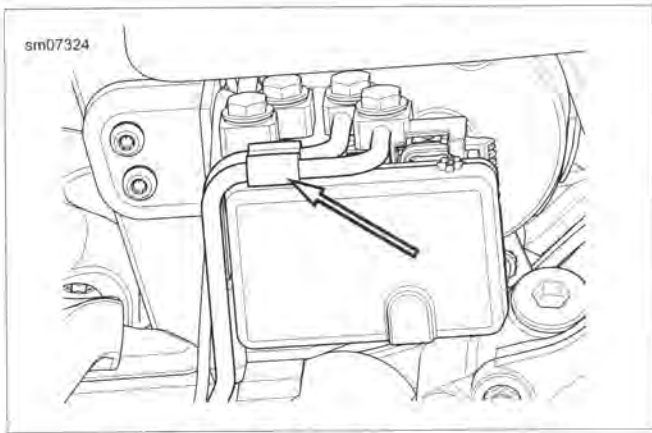

Figure 2-79. Brake Line Clip at ABS Module
8. See Figure 2-79. Remove brake line clip at ABS module.
See Figure 2-79. Failure to install clip on rear brake lines at ABS module may result in the brake lines rubbing against the rear fork during vehicle operation.
5. See Figure 2-79. Install brake line clip at ABS module.